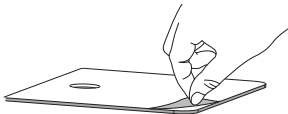

Figure 9
3. Remove the backing from the **Base Pad**. (Figure 9)